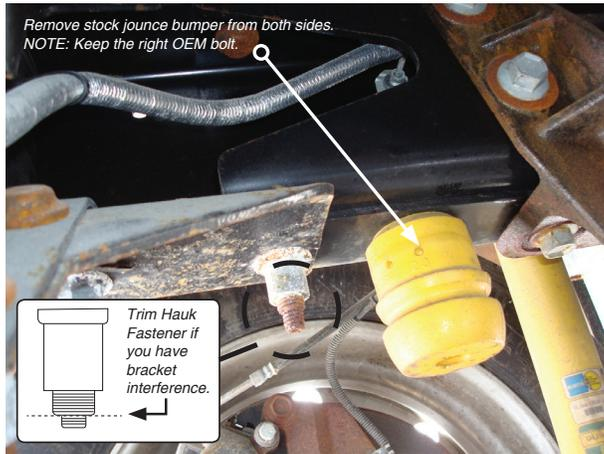

fig. 5
1. Before the assemblies can be installed, it will be necessary to remove the jounce bumpers from under the frame (Fig. 5). Note: do not discard the right OEM bolt; it will be used in the next step on the right side of the vehicle.
If there is no hole in the frame for the upper bracket, position the lower bracket so that the back leg on the bracket is in between the shock mount and u-bolt (Fig. 8). Align the upper bracket so the bellows is perpendicular between the upper and lower bracket. Note: make sure that the flange on the upper bracket is setting against the frame. Some late models may have longer Hawk fasteners. If the fastener hits on the upper bracket and keeps its form contacting the frame (Figs. 5 and 9) hack saw or grind the end of the fastener just enough so that the upper bracket contacts the frame. Using the center of the slot in the upper bracket as a guide, center punch and drill a 1/2" hole through the frame. Repeat for the other side.